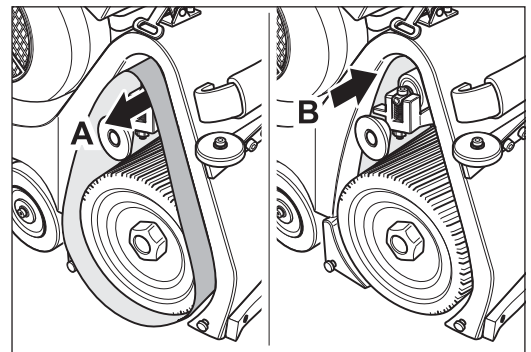

Fig. 41 If the sanding belt runs towards **A** or **B**, the setting of the sanding belt regulation is necessary.
- 5 If the sanding belt runs to the front (towards **A** in Fig. 41) or to the back (towards **B** in Fig. 41) the setting of the sanding belt regulation is necessary (➔ *Section 7.3.2, Setting the sanding belt tracking*). If the sanding belt tracking is alright, mount the side cover.
If the sanding belt is running out of true (towards **A** or **B** in Fig. 41), it must be turned around and another test performed.
If the sanding belt runs to the front (towards **A** in Fig. 41) and after turning over to the back (towards **B** in Fig. 41) or vice versa, the sanding belt is of poor quality and is not usable (conical sleeve)!